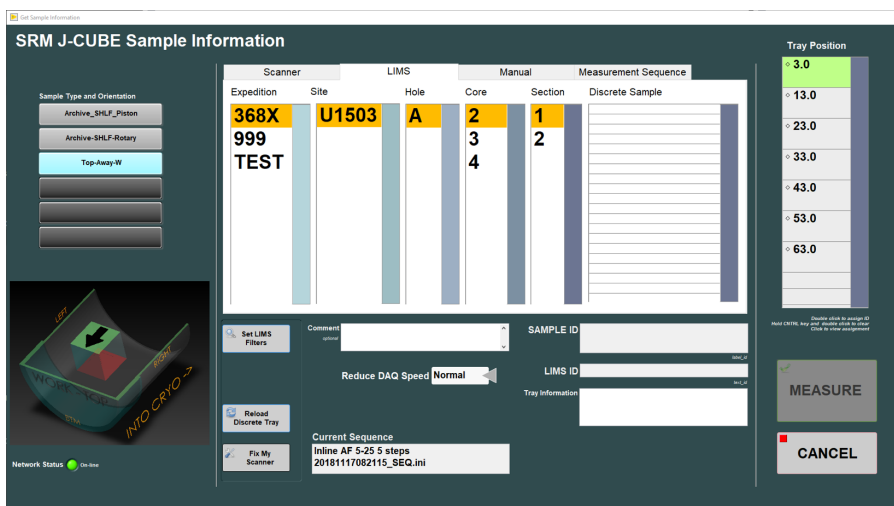

Figure 25- Sample Information Window: Discrete LIMS Entry
- **LIMS** mode: Use the hierarchy selection columns to select a discrete sample (**Figure 25**). You must select a sample from the Discrete Sample list box before you can assign it to a tray position. Double click on the **Tray Position** list to assign it to a tray position.